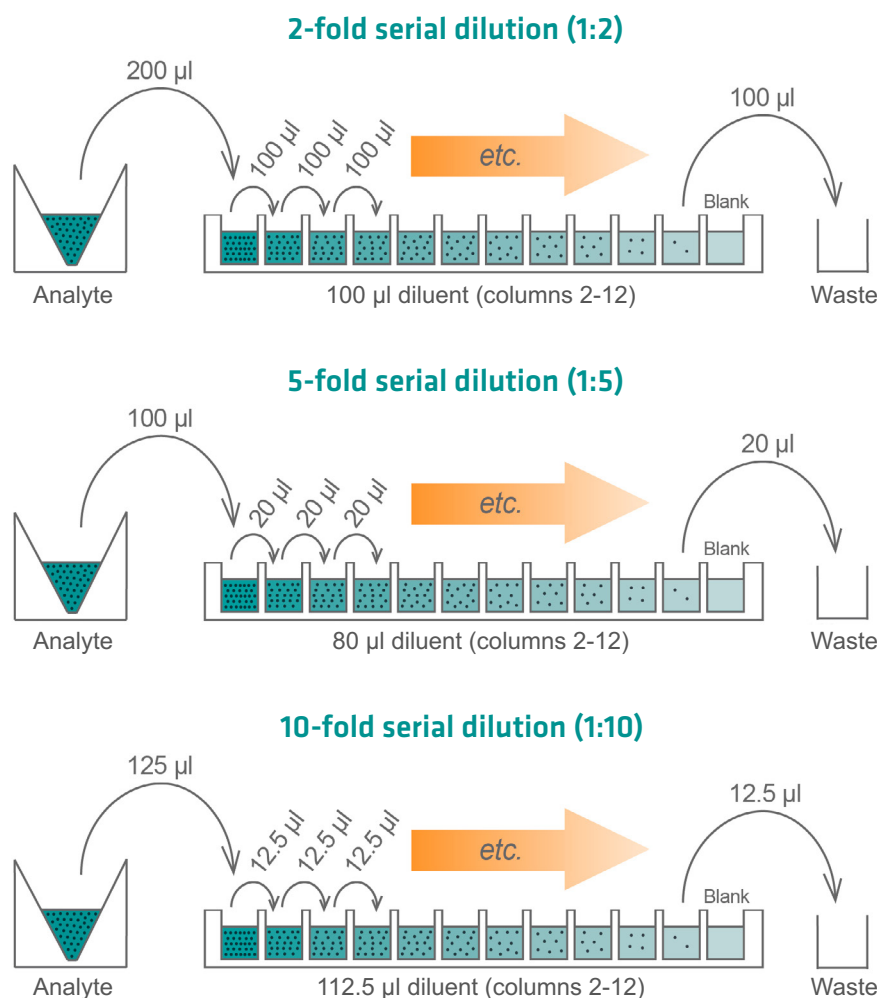

Figure 3: Serial dilutions in 96 well flat bottom plates with the 125 µl VOYAGER.
Specific volumes are handled by the VOYAGER (**Figure 3**). The diluent is transferred in multiple dispensing steps from the reservoir (Position A – A1) into each well of the 96 well flat bottom plate, starting with column 2 (Position B). To ensure precision during plate set-up, a pre- and post-dispense of 5 % of the transferred volume is used for the 10-fold serial dilution, and 10 % for the 2- and 5-fold serial dilutions.
Without changing the GRIPTIPS, the VOYAGER begins the serial dilution by aspirating the specific volume (**Figure 3**) from column 1 of the 96 well flat bottom plate (Position B) and dispensing into the second column. The VOYAGER then mixes 100 µl (2- and 10-fold serial dilution) or 80 µl (5-fold serial dilutions) of the analyte/diluent 5 times at maximum speed (10). A blowout is performed to clear the tip of any remaining liquid before aspirating for the following dilution step. The procedure is repeated until column 11 is reached, where the last aspiration is discarded along with the GRIPTIPS (**Figure 4**). Column 12 only contains diluent, and functions as a blank for background noise elimination.